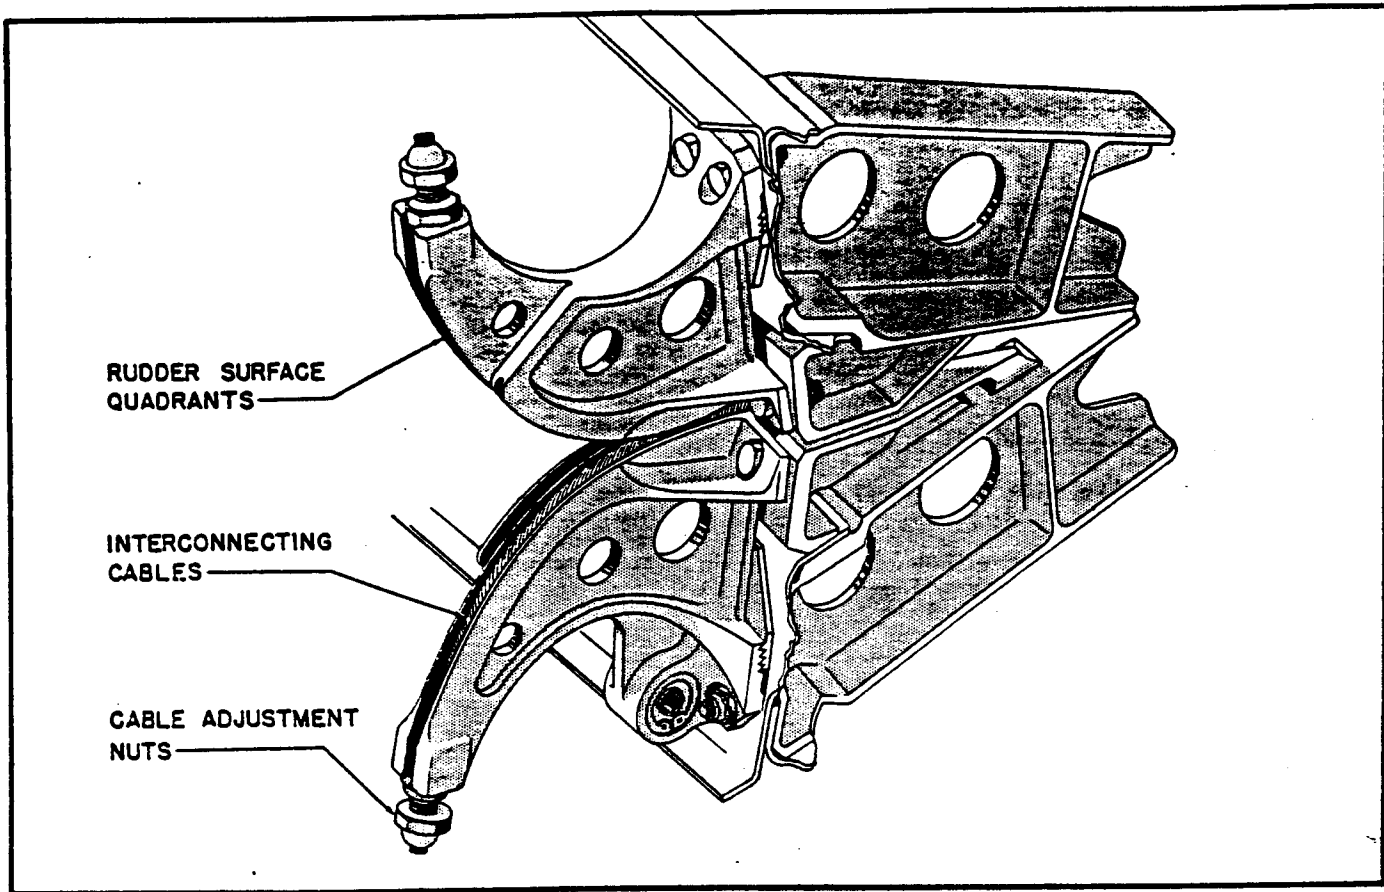

Figure 18. Rudder Surface Interconnecting Cable
2. Remove the slack and apply a preload of 20-inch pounds torque to all interconnecting cables. (See figure 18.)